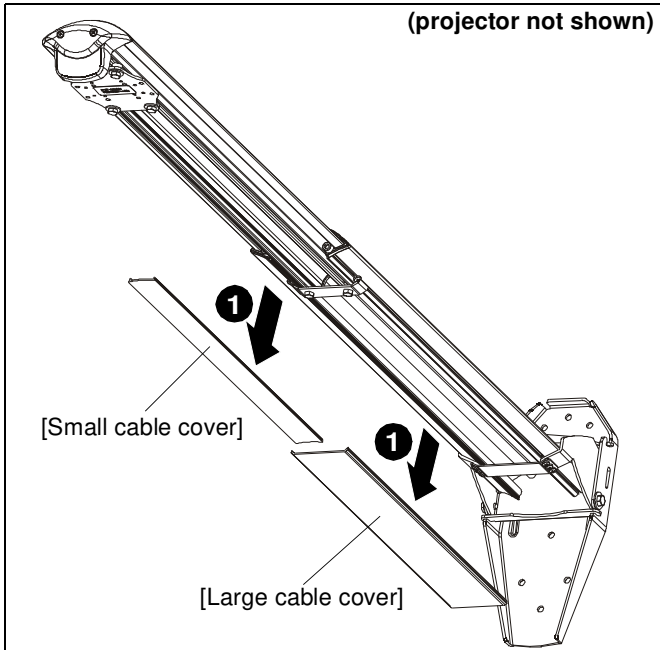

Figure 21
1. Remove cable management covers (if necessary) from short throw projector arm. (See Figure 21)